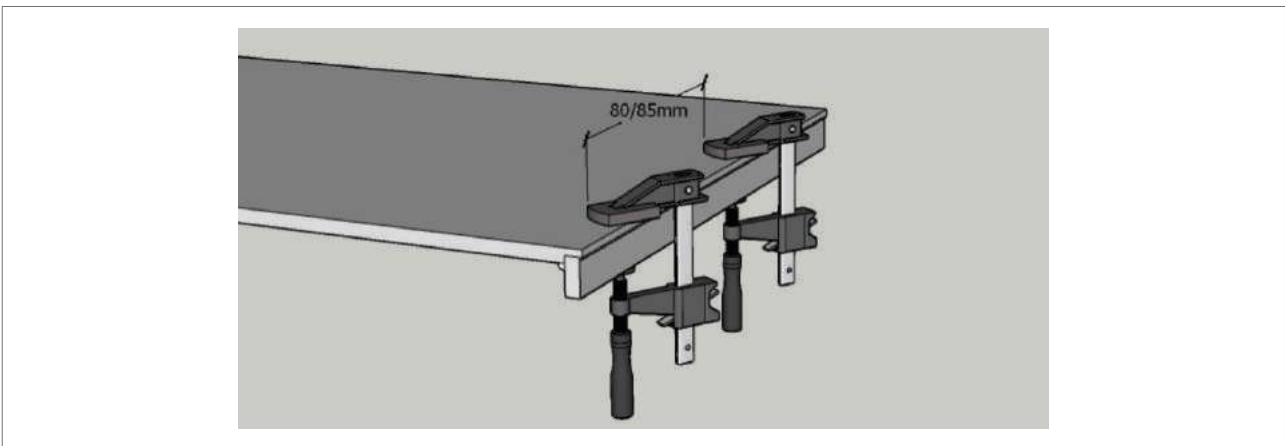

Fig.7
- Apply a sufficient amount of adhesive and clamp edge in position with screw clamps set at 80 / 85 mm apart. Fig.7.
Ensure that beads of adhesive are formed at both the internal and external edge of the joint. Fig.7. Once fully cured trim the overhang using a portable hand router, use a straight cutter with Nylon bearing attachment.